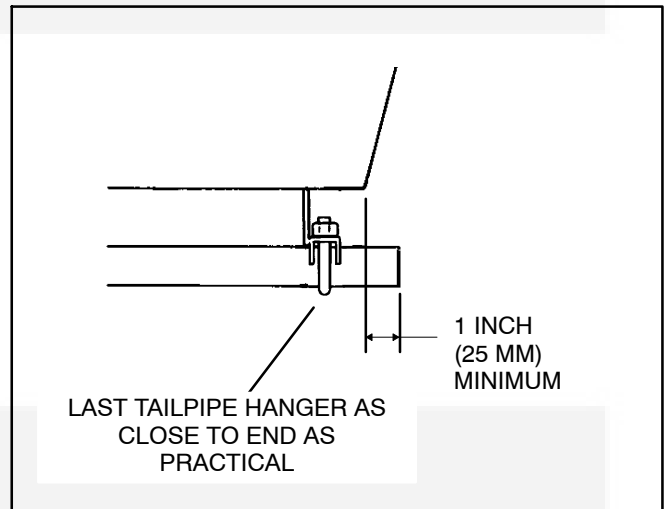

FIGURE 3-3. TERMINATING EXHAUST TAILPIPE
4. Do not terminate the tailpipe underneath the vehicle. Extend it a minimum of 1 inch (25 mm) beyond the perimeter of the vehicle (Figure 3-3). Support the end of the tailpipe such that it cannot be pushed inward and up under the skirt of the vehicle by backing up into a curb or other obstacle.